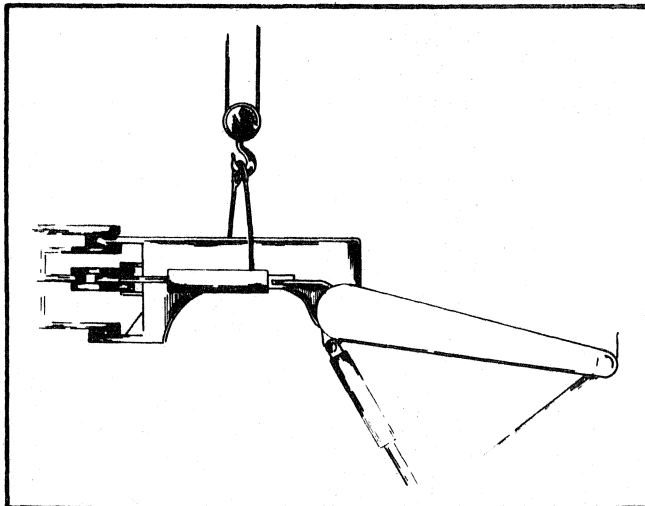

Fig. 1 Supporting Pull Yoke
5. Support the pull yoke with a hoist as shown in Fig. 1.